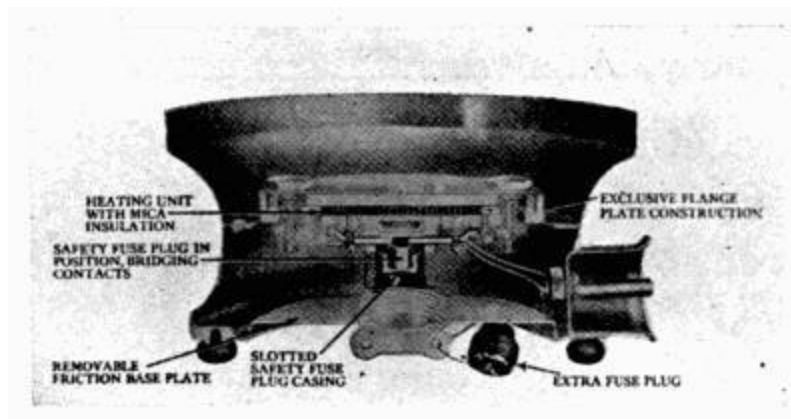

FIG. 20. Heating unit of electric stove.
40. Utensils for Electric Stoves. The most economical use of electricity can be secured with utensils built around the heating units (Figs. 20 and 21), and the next most economical use with utensils built especially to fit the heating units. This means that there would be a heating unit for each utensil, or size of utensil, and the expense of equipment would be considerable. Also, more care would be needed in washing the utensils and in preventing them from becoming bent. Such facts must be considered in choosing between stoves with special devices and those on which any pan may be set. After installing an electric stove, start with new utensils because they will not blacken on an electric stove, and so can be washed with the other dishes.